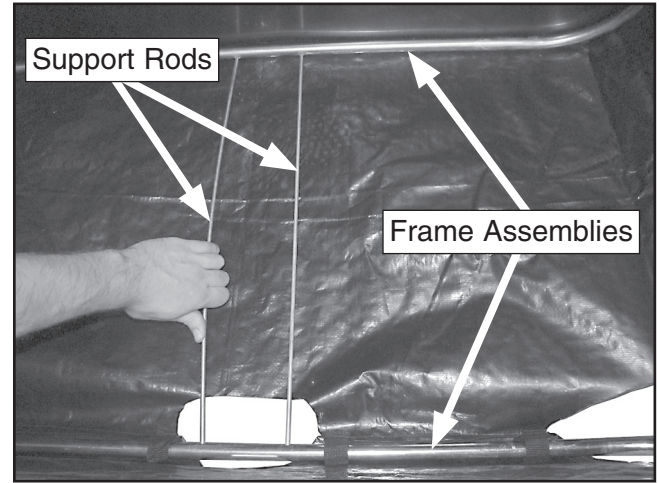

Figure 15. Support rods.
- Insert the two support rods between the upper and lower bag frame assemblies, as shown in **Figure 15**.